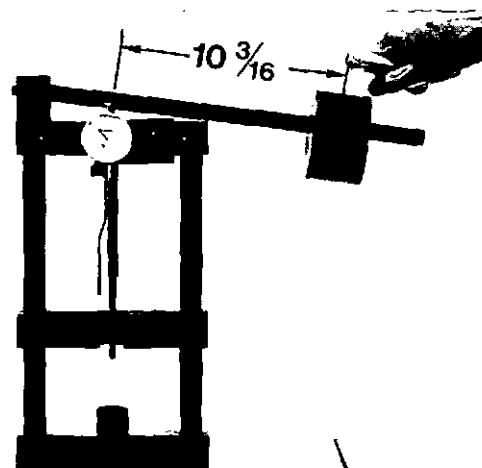

Fig. 4-2, (F60300). Set the setting fixture weight
- a. Locate the center of the weight on the operating lever, 10-3/16 inches [259 mm] from the centerline of the dowel pin, Fig. 4-2.
- c. Locate the indicator plate in the lowest of the two positions, Fig. 4-2.